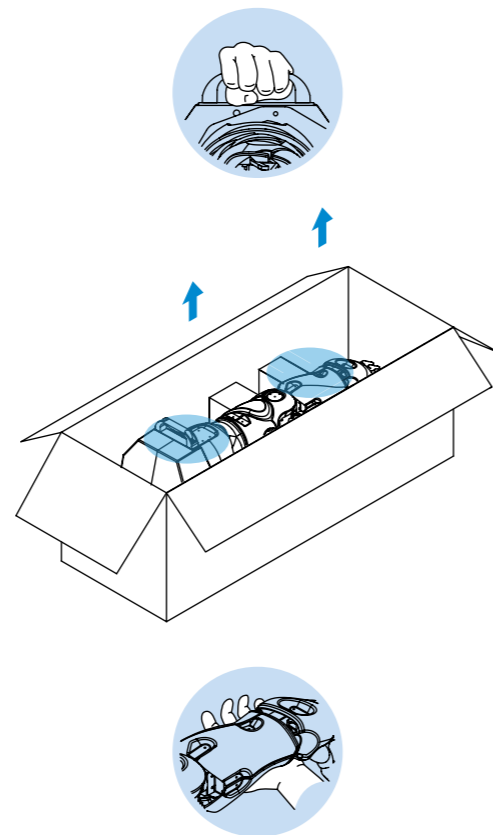

Figure 11.
3. Carefully take the robotic arm out of the polyethylene foam logement holding by the highlighted positions (Figure 11).